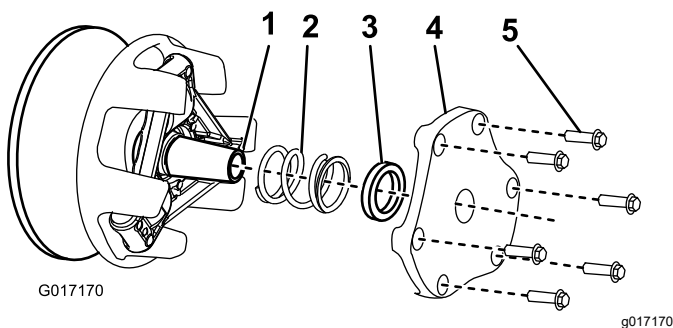

Figure 47
4. Set aside the cover, spacer, and spring (Figure 47).